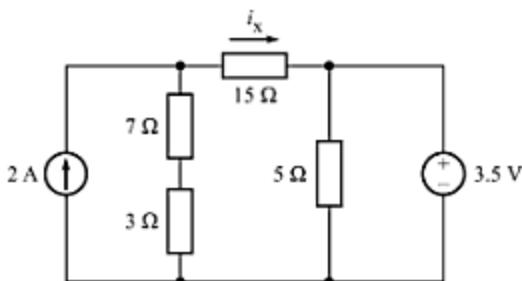

Fig. A-71
- A-30. For the circuit of Fig. A-71, use superposition theorem to find the current  $i_x$  in  $15\text{-}\Omega$  resistor.